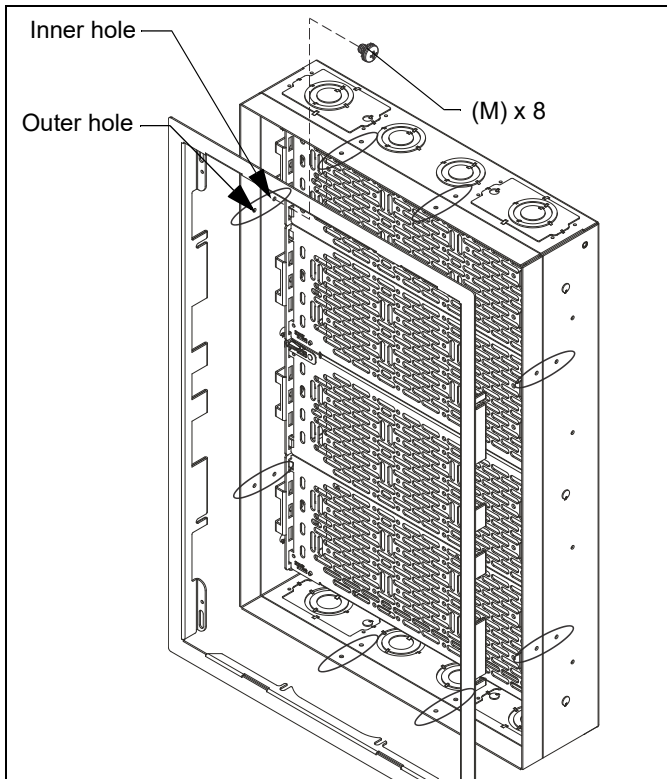

**Figure 14**
**NOTE: OPTIONAL:** Install template (F), if necessary, as a temporary cover to protect interior of PAC527L box from debris.
1. Fold tabs of template (F) in and insert into PAC527L opening. (See Figure 14)